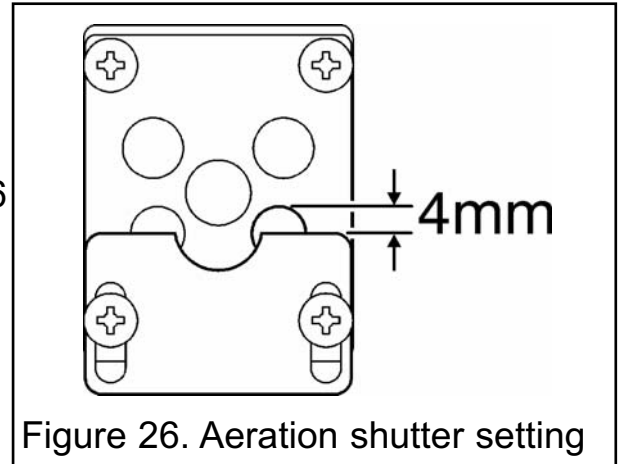

Figure 26. Aeration shutter setting
1. The aeration shutter is factory set and should not require adjustment. If the shutter is not as shown in figure 26 and requires adjustment, loosen the two aeration shutter screws, slide the aeration shutter to the position shown in figure 26 and tighten the fixing screws.